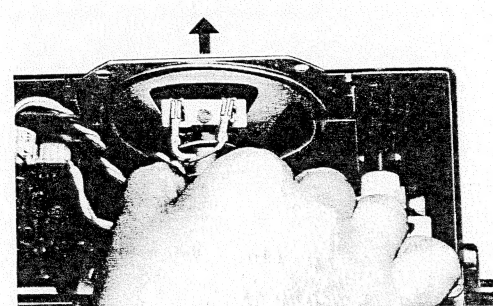

Fig. 3
2. Remove the speaker in the direction of arrow, as illustrated in fig. 3.